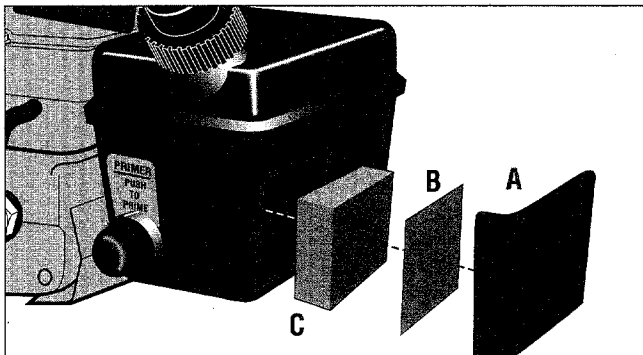

Figure 13: The air cleaner assembly.
1. Loosen both cover screws and remove cover (A, Figure 13) and screws.
2. Remove the outer, flocked filter (B).
3. Remove the thick foam filter (C).
3. Reassemble filter as shown in Figure 13. Do not overtighten cover screws.